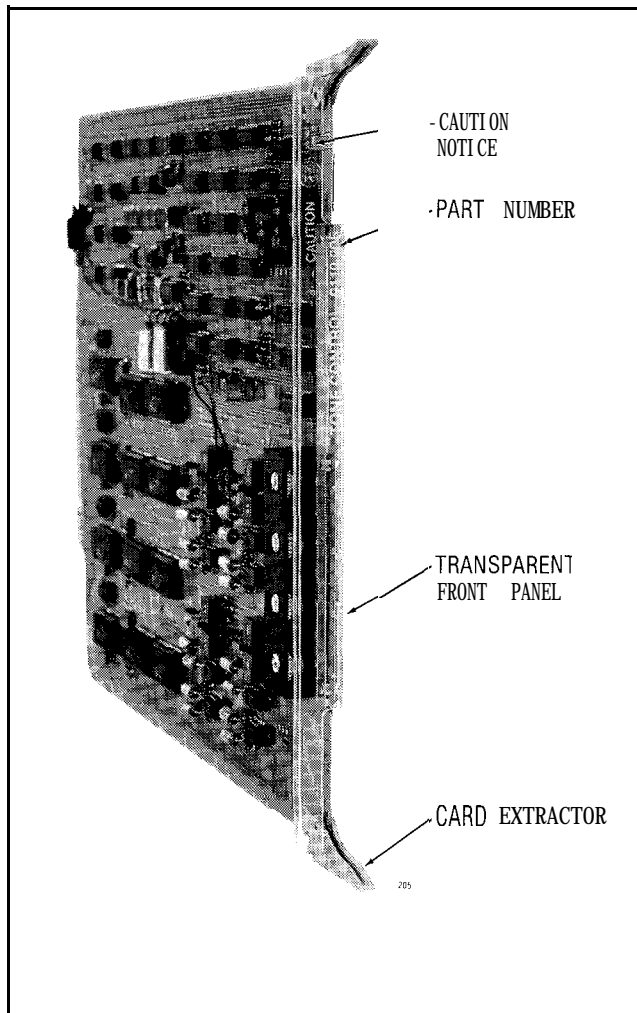

Fig. 2-6 Typical Printed Circuit Card
2.10 All circuit cards (see Fig. 2-6) within the SX-200 are identical in construction and consist of a fiberglass board with printed wiring patterns on both of its faces. Rivetted to the front of each board is a transparent faceplate which allows the LEDs mounted on the front of the boards to be easily seen. The two color-coded card extractors located at the top and bottom of